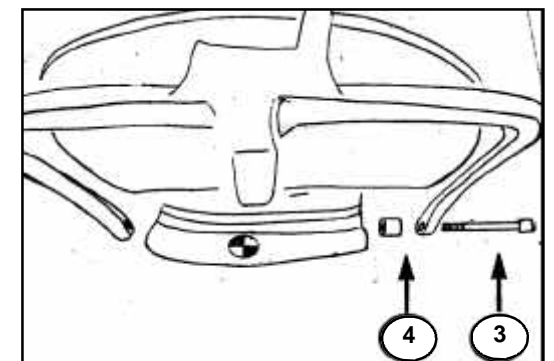

Figure 6.
Place the spacers (4) between the front mounts of the hand rail and the accessory seat front bushings then start the M6 x 90 socket head screws (3). Figure 6.